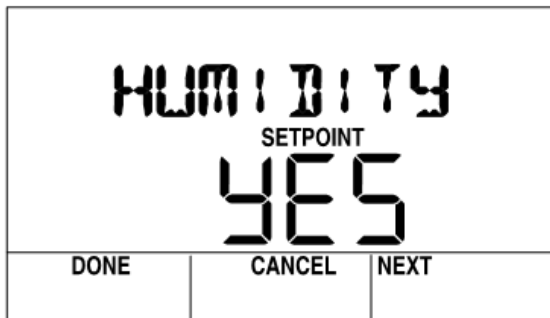

Fig. 31. Set View More parameter display.
- Clicking the VIEW MORE softkey displays the first configured parameter as shown Fig. 31, and the softkeys change to DONE, CANCEL, and NEXT.
- Clicking the PARAMETERS softkey displays the first configured category as shown in Fig. 31, and the softkeys change to DONE, EDIT, and NEXT.